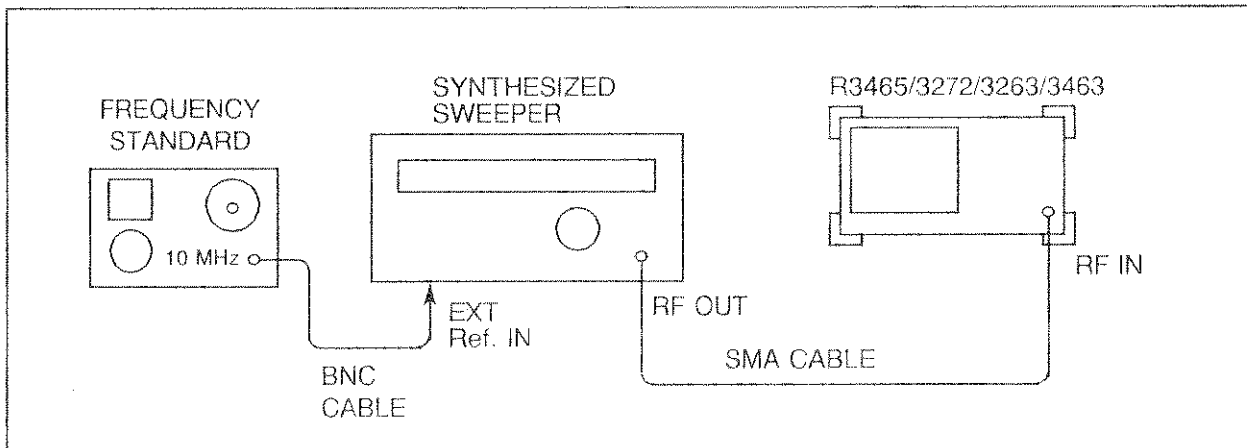

Figure 1-1 Frequency Readout and Frequency Counter Marker Accuracy Test Setup
- (1) Connect the equipment as shown in Figure 1-1